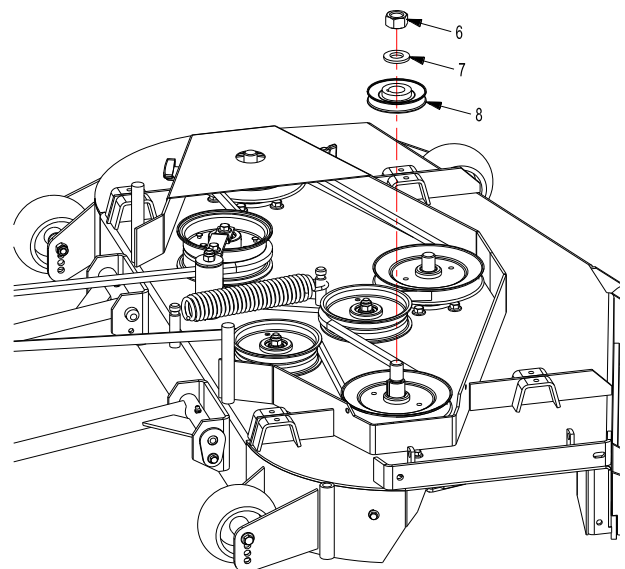

FIG 2
- b) Install Drive Pulley (FIG 2)